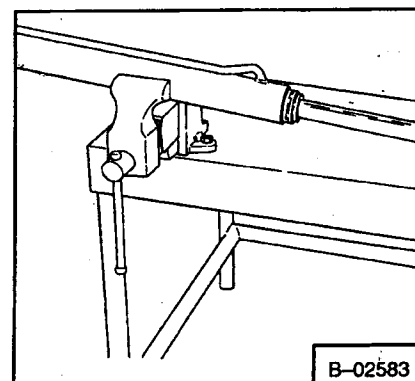

Fig. 4-44 Remove Cylinder Shaft W/Piston
3. Pull shaft and piston assembly from cylinder housing (Fig. 4-44).